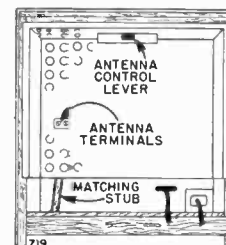

Figure 87
**Operating the "Roto-Scope" Antenna:** The Roto-Scope antenna is operated by the antenna control lever which extends from the back of the cabinet near the top (see figure 87). The antenna control lever can be set to any of three different positions which, in effect, allow the Roto-Scope to be oriented (rotated) for best possible reception on all channels operating in your area.